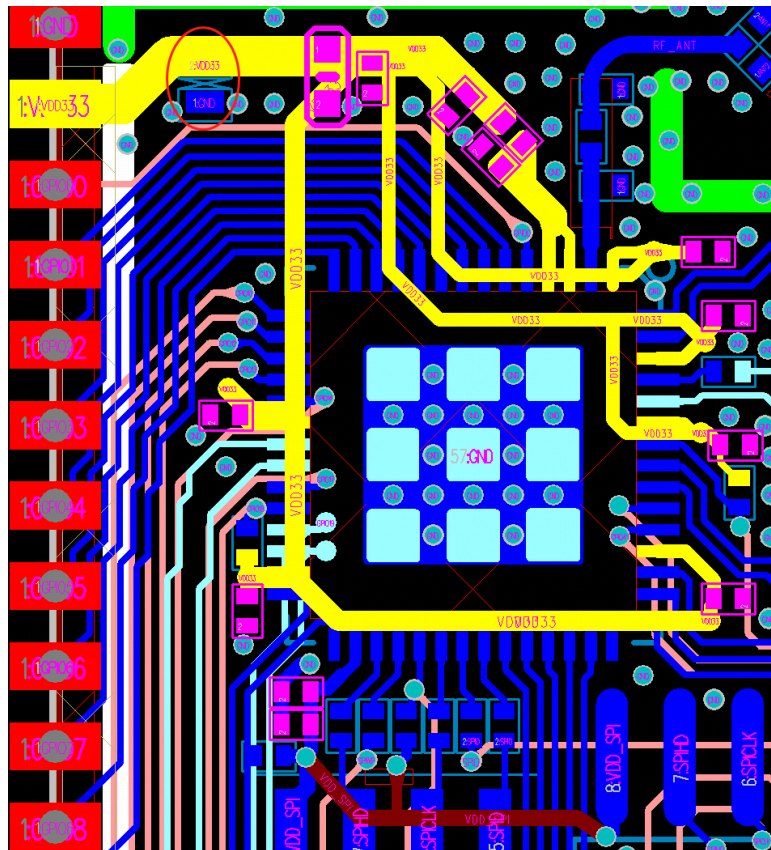

Figure 13: ESP32-S2 Power Traces in a Four-layer PCB Design
- The 3.3 V power traces, highlighted in yellow, are routed as shown in Figure 13. The width of the main power traces should be at least 25 mil. The width of the power traces for pin3 and pin4 should be at least 20 mil. The width of other power traces is preferably 10 mil.
- As shown in Figure 13, an ESD protection diode is placed close to the power port (marked in red circle). A 10 μF capacitor is required before the power trace connects the ESP32-S2 chip, to be used in conjunction with a 0.1 μF capacitor. Then the power traces are divided into two ways from here and form a star-shape topology, thus reducing the coupling between different power pins. Note that all decoupling capacitors should be placed close to the power pin, and ground vias should be added adjacent to the ground pin for the decoupling capacitors to ensure a short return path.
If you need to add a thermal pad EPAD under the chip on the bottom of the module, it is recommended to employ a nine-grid on the EPAD, cover the gaps with ink, and place ground vias in the gaps, as shown in Figure 13. This can avoid tin leakage when soldering the module EPAD to the substrate.